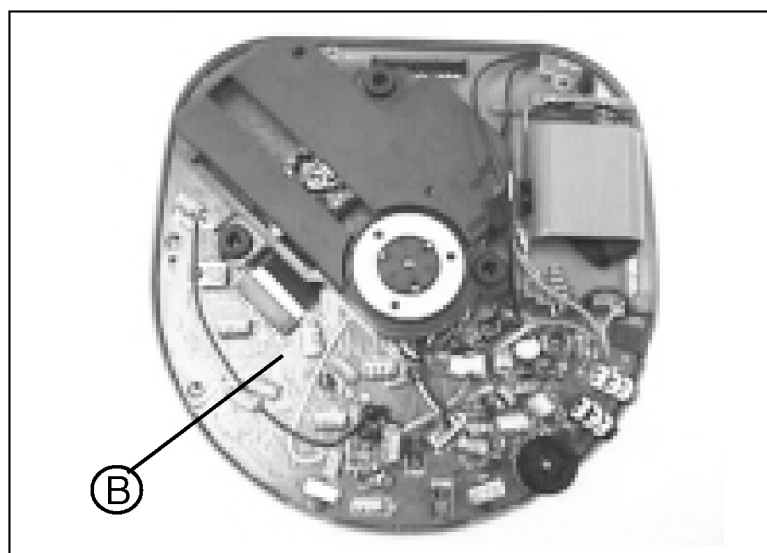

Fig. 2
- Remove the REAR CABINET with CD MECH. & PCB (B) (Fig. 2)